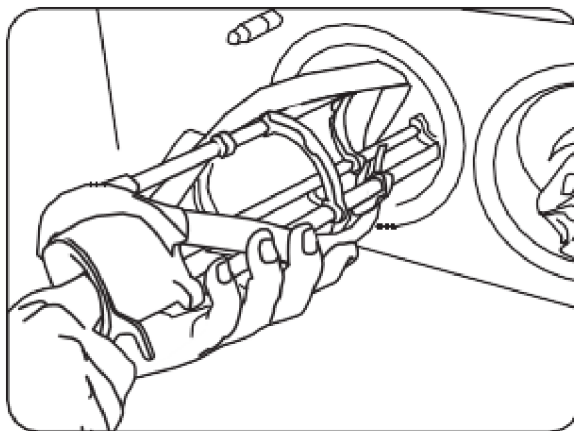

Figure 5-2
3. Insert the assembled beater over the drive shaft and into the freezing cylinder. (See Figure 5-2.)